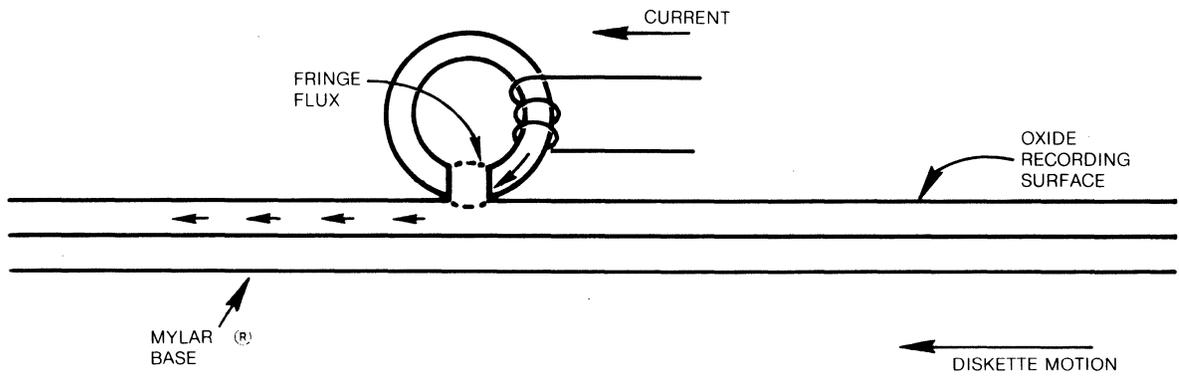

FIGURE 26. BASIC READ/WRITE HEAD
1.4.2 The read/write heads are similar to a ring with a gap and a coil wound some point on the ring. When current flows through the coil, the flux induced in the ring fringes at the gap. As the diskette recording surface passes by the gap, the fringe flux magnetizes the surface in a horizontal direction. See Figure 26.